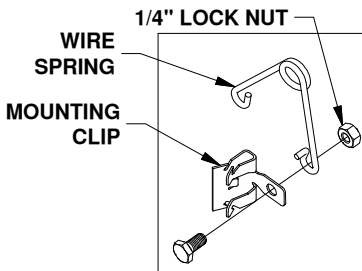
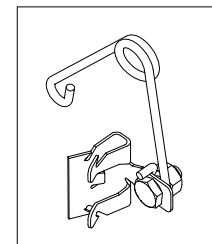

Figure D1: Leveling kit parts.
Figure D2: Assembled leveling kit.
- 1. Assemble kit.** Locate the 1/4" cap screw and nut, along with the wire torsion spring and mounting clip. Pass the 1/4" cap screw through the mounting clip and the wire spring, as shown in Figure D1. Thread the 1/4" lock nut onto the 1/4" cap screw. Tighten the lock nut just enough that the spring will stay in place but will still be able to rotate around the bolt if needed, see Figure D2.